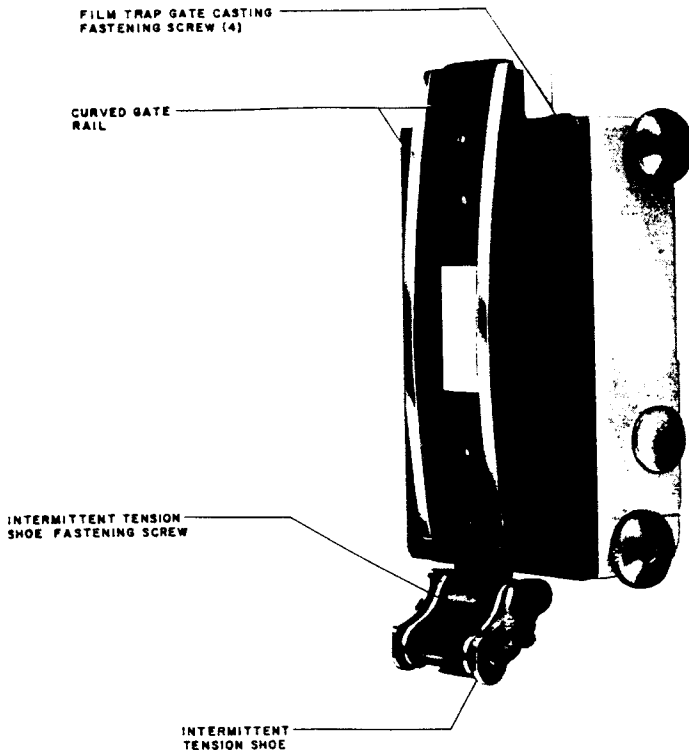

Figure 4-1
2. Intermittent Tension Shoe Replacement (See Figure 4-1.)